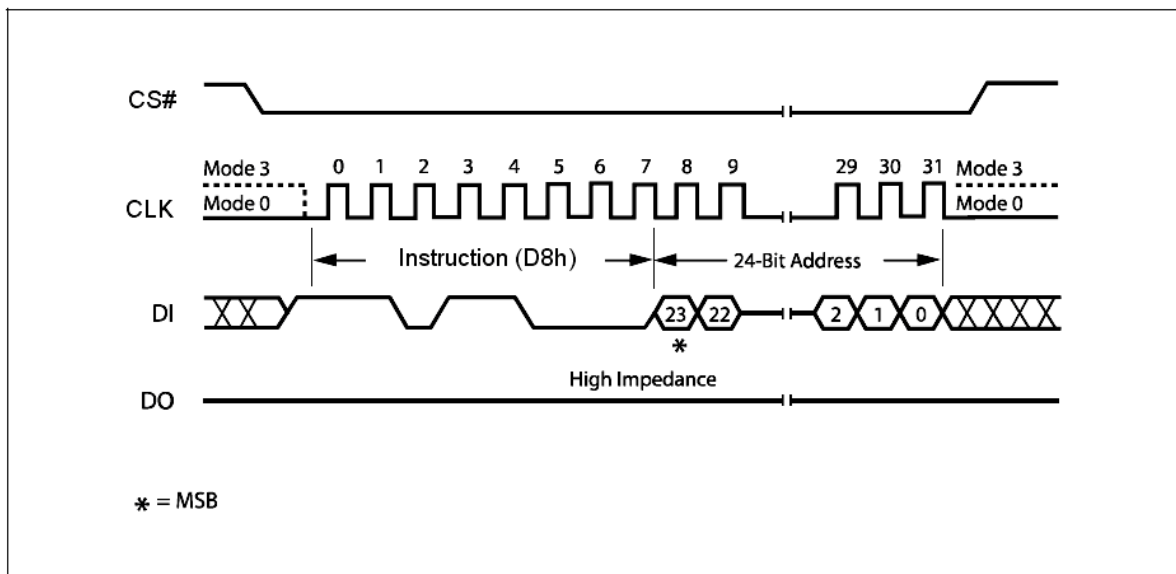

Figure 19. Block Erase Instruction Sequence Diagram
The instruction sequence is shown in Figure 19. Chip Select (CS#) must be driven High after the eighth bit of the last address byte has been latched in, otherwise the Block Erase (BE) instruction is not executed. As soon as Chip Select (CS#) is driven High, the self-timed Block Erase cycle (whose duration is t_{BE}) is initiated. While the Block Erase cycle is in progress, the Status Register may be read to check the value of the Write In Progress (WIP) bit. The Write In Progress (WIP) bit is 1 during the self-timed Block Erase cycle, and is 0 when it is completed. At some unspecified time before the cycle is completed, the Write Enable Latch (WEL) bit is reset.